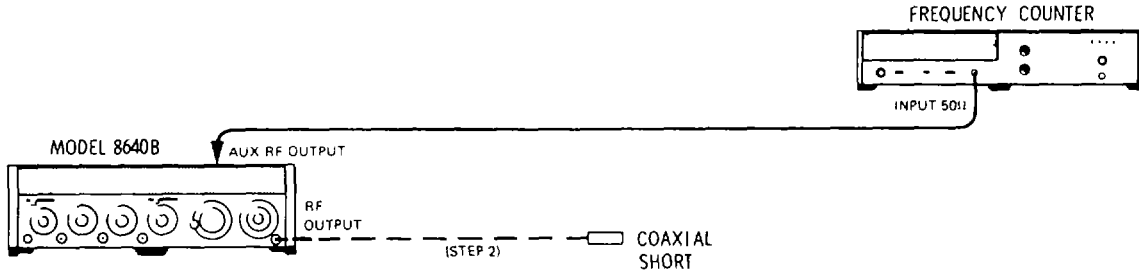

Figure 4-4. Frequency Stability us Load, Level, and Mode Test Setup
1. Connect equipment as shown in Figure 4-4 after setting Signal Generator's controls as follows: